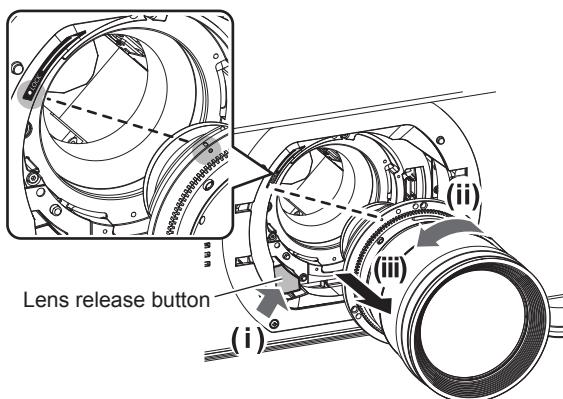

Fig. 2
3) While pressing the lens release button, remove the projection lens by turning it counterclockwise. (Fig. 2)